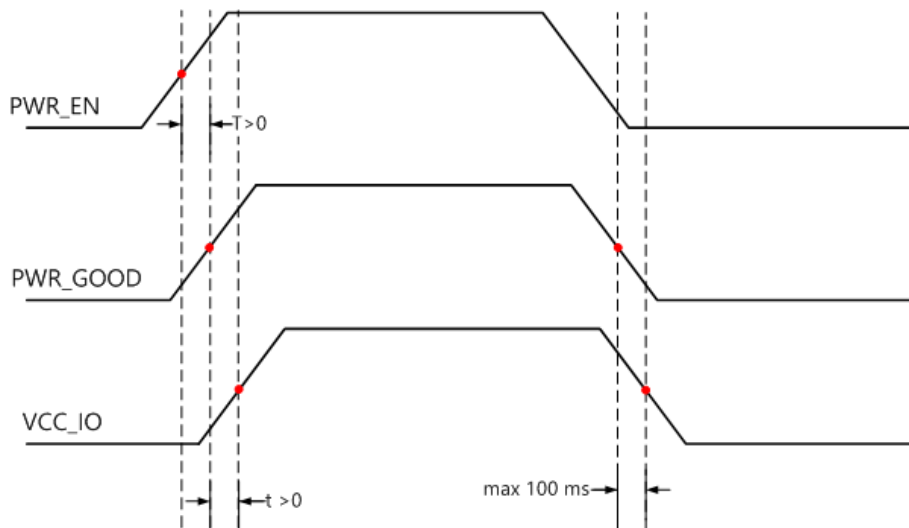

Figure 10: Power-Up Sequence - VCC\_IO in Relation with PWR\_GOOD and PWR\_EN Signals
*Do not power the VCC\_IO pins when PWR\_GOOD and PWR\_EN signals are not active. If the module is not powered, you need to make sure that the VCC\_IO voltages are disabled (for example, by using a switch on the base board, which uses PWR\_GOOD as enable signal). Figure 10 illustrates the VCC\_IO power requirements.*